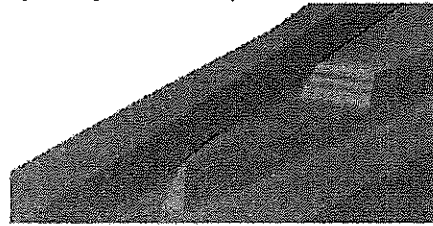

Fig. 86- Grinding or arc air point
2. If crack is very deep and goes through the casting, grind or Arc Air and remove all material above crack and as wide as point, Fig. 86.